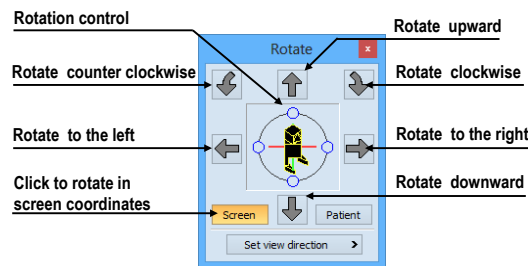

Figure 282 – Rotate tool (Screen mode)
- rotation in screen coordinates (see Figure 282)